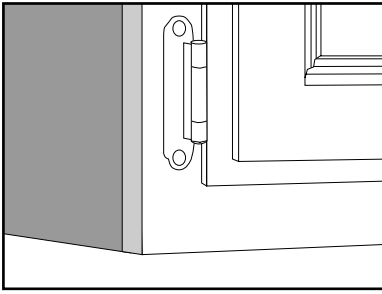

Figure A1 - Flush Bottom
1. First determine if your cabinet has a flush bottom or an overhang bottom (see Figures A1 and A2). If your cabinet has a Flush Bottom—a flat level surface—skip to the “Mounting Instructions”.